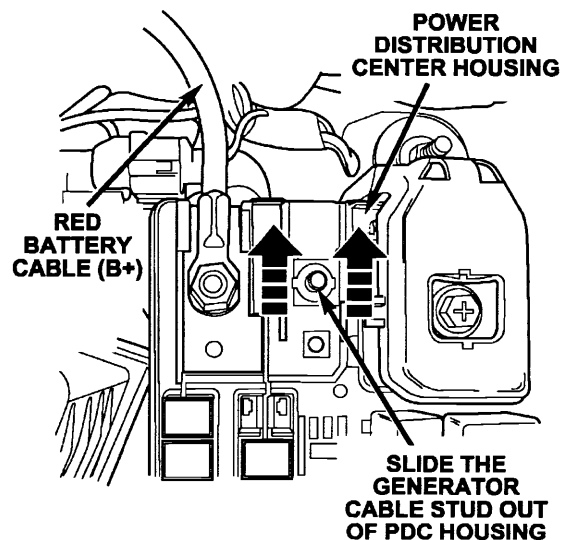

Figure 4 – Top View
6. Slide the generator cable stud out of the PDC housing and discard stud (Figure 4).